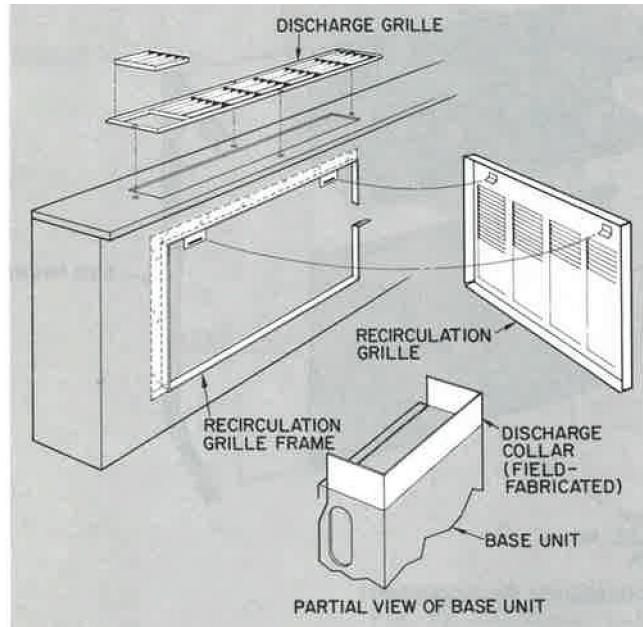

Fig. 7 — Accessory Grilles and Field-Supplied Collar
1. Position recirculation grille mounting frame, using holes provided. Install recirculation grille panel to grille frame. See Fig. 7.